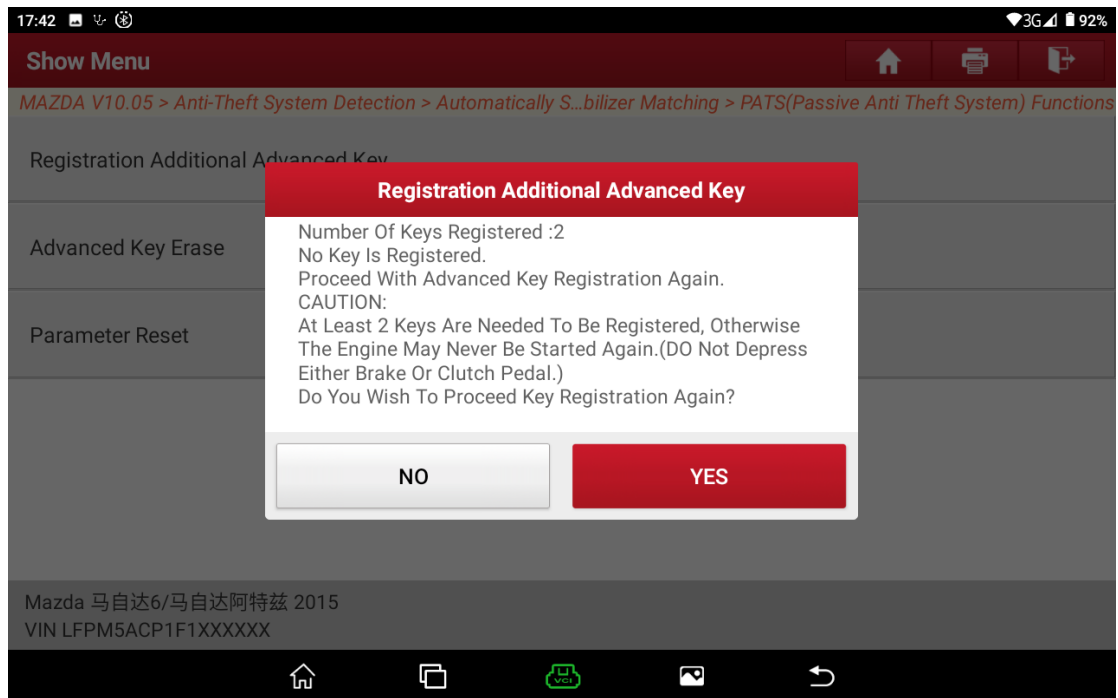

Figure 23
21. The number of registered keys is displayed. Choose [No] to go to the next step, or choose [Yes] to go back to step 17. See Figure 23.